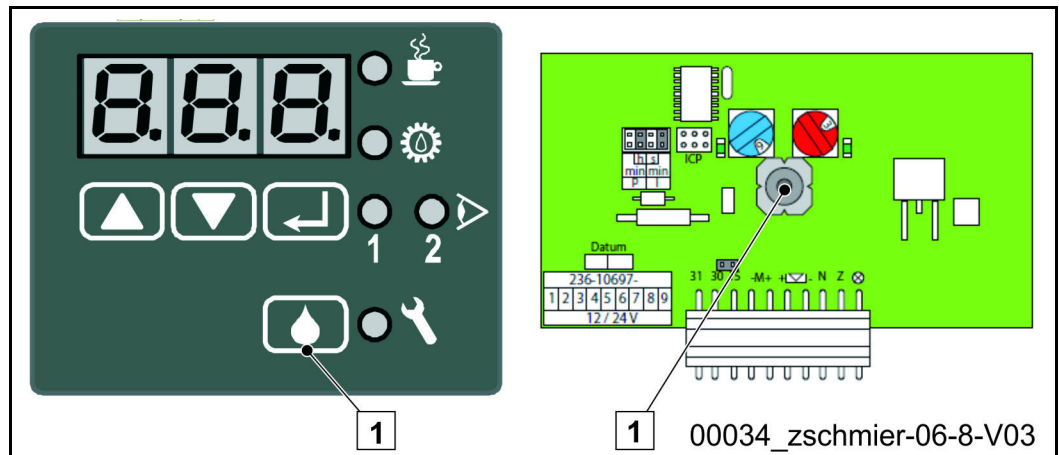

Fig. 481 Trigger (1) for intermediate lubrication
If additional lubrication appears necessary under certain operating conditions, you can trigger intermediate lubrication by pressing the button (1) (**Fig. 481**) (for type B, press for at least 2 seconds) while the above conditions are met.